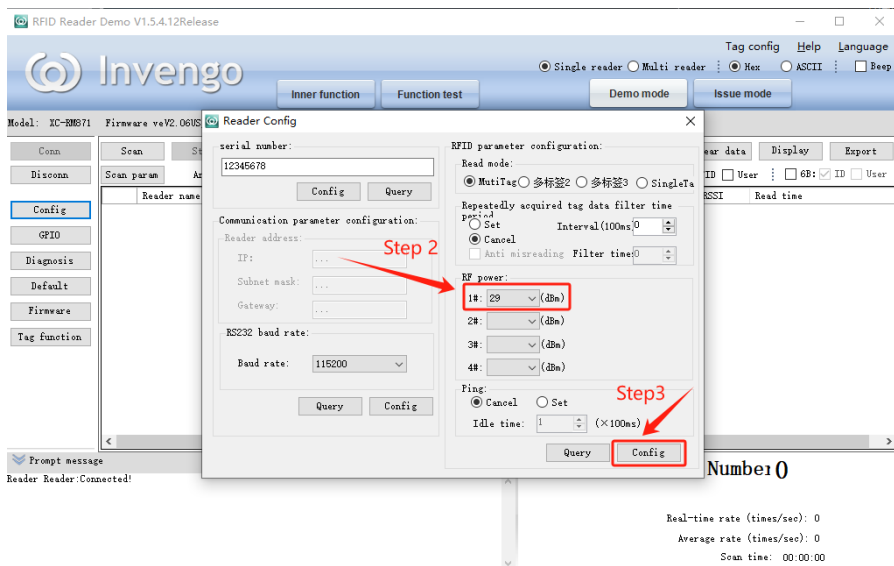

Figure 5-7 Power Setting Diagram 2
- 2) After entering the interface shown in Figure 5-7, select the target power value and click “Config”;